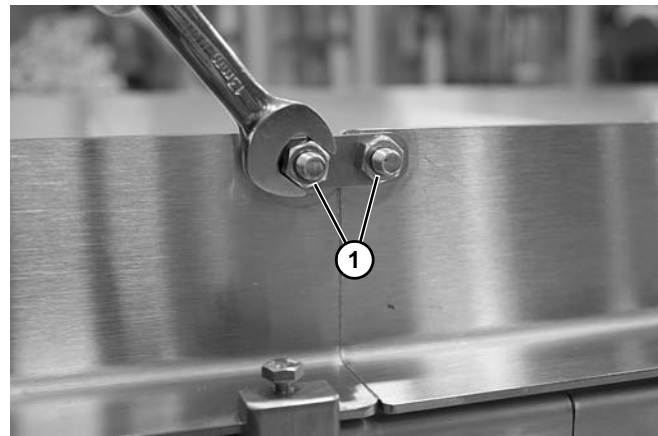

Figure 38
5. Install nuts (**Figure 38, item 1**) and tighten.